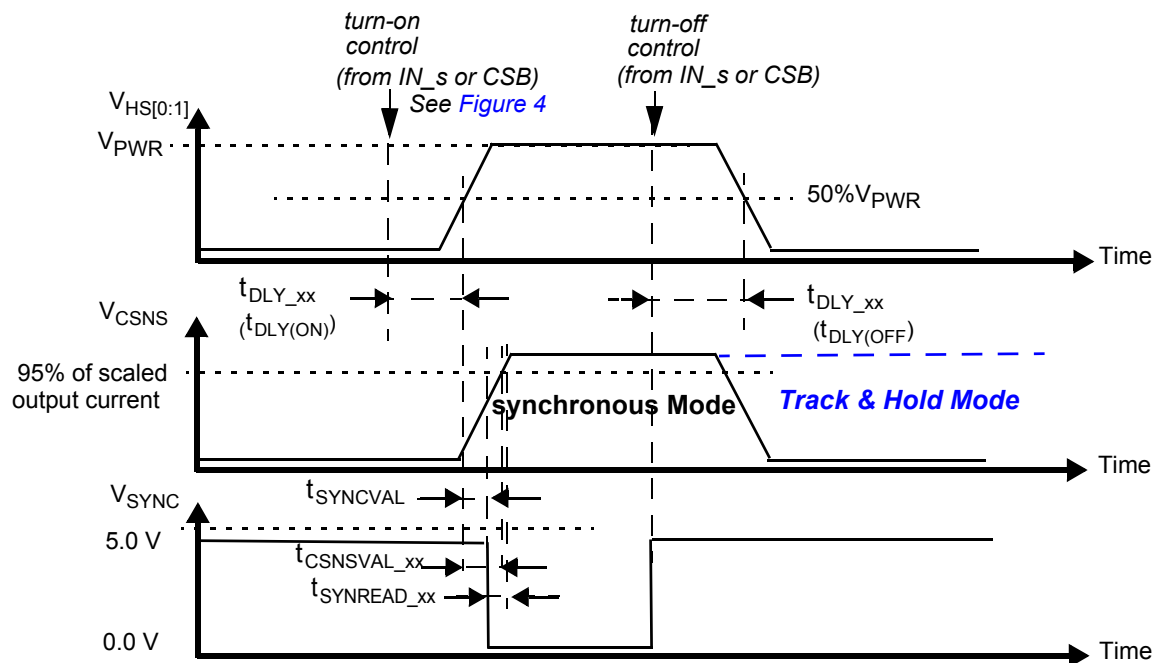

Figure 9. Synchronous & Track-and-Hold Current Sensing Modes: Associated Delay & Settling Times
34. Settling time (= $t_{\text{CSNSVAL_xx}}$), SYNC output signal delay (= $t_{\text{SYNCVAL_xx}}$) and Read-out delay (= $t_{\text{SYNREAD_xx}}$) are defined for a stepped load current ($100\text{ mA} < I(\text{LOAD}) < I_{\text{OCLX A FOR CSNS_RATIO_S = 1}}$, AND $300\text{ mA} < I(\text{LOAD}) < I_{\text{OCLX A_0 FOR CSNS_RATIO_S = 0}}$). (see Figure 9 and Output Current Monitoring \(CSNS\))
The CS pin allows independent current monitoring of channel 0 or channel 1 up to the steady-state overcurrent threshold. It can also be used to sense the device temperature. The different functions are selected by setting bits CSNS1_en and CSNS0_en to the appropriate value (Table 23). When the CSNS pin is sensed during switch-off in the (optional) track & hold mode (see Figure 9), it outputs the scaled value of the load current as it was just before turn-Off. When several devices share the same pull-down resistor, the CSNS pins of devices, the current of which is not monitored, must be tri-stated. This is accomplished by setting CSNS0_en = 0 and CSNS1_en = 0 in their GCR register (Table 12). Settling time ($t_{CSNSVAL_XX}$) is defined as the time between the instant at the middle of the output voltage's rising edge ($HS[0:1] = 50\%$ of V_{PWR}), and the instant at which the voltage on the CSNS pin has settled to $\pm 5.0\%$ of its final value. Anytime an overcurrent window is active, the CSNS pin is disabled (see Overcurrent Detection on Resistive and Inductive Loads). The current and temperature sensing functions are unavailable in Fail-safe mode and in Normal mode when operating without the V_{DD} supply voltage. In order to generate a voltage output, this pin requires a pull-down resistor ($R(CSNS)=1.0\text{ k}\Omega$ typ. and $470 < R(CSNS) < 10\text{ k}$). When the current sense resistor connected to the CSNS pin is disconnected, the CSNS voltage is clamped to $V_{CL(CSNS)}$. The CSNS pin can source currents up to about 5.6 mA.
To synchronize current sensing with an external process, the SYNC signal can be connected to a digital input of an external MCU. An open-drain pull-down on SYNC indicates that the current sense signal is accurate and ready to be read. The current sense signal on the CSNS pin has the specified accuracy $t_{SYNREAD_XX}$ seconds after the falling edge on the SYNC pin (Figure 9) and remains valid until a rising edge is generated. The rising edge that is generated by the SYNC pin at the turn-OFF instant (internal or external) may also be used to implement synchronization with the external MCU. Parameter t_{SYNVAL_XX} is defined as the time between the instant at the middle of the output voltage rising edge ($HS[0:1] = 50\%$ of $VPWR$), and the instant at which the voltage on the SYNC-pin drops below 0.4 V (V_{SOL}). The SYNC pins of different devices can be connected together to save micro-controller input channels. However, in this configuration, the CSNS of only one device should be active at a time. Otherwise, the MCU is not be able to determine the source of the SYNC signal. The SYNC pin requires an external pull-up resistor to V_{DD} .